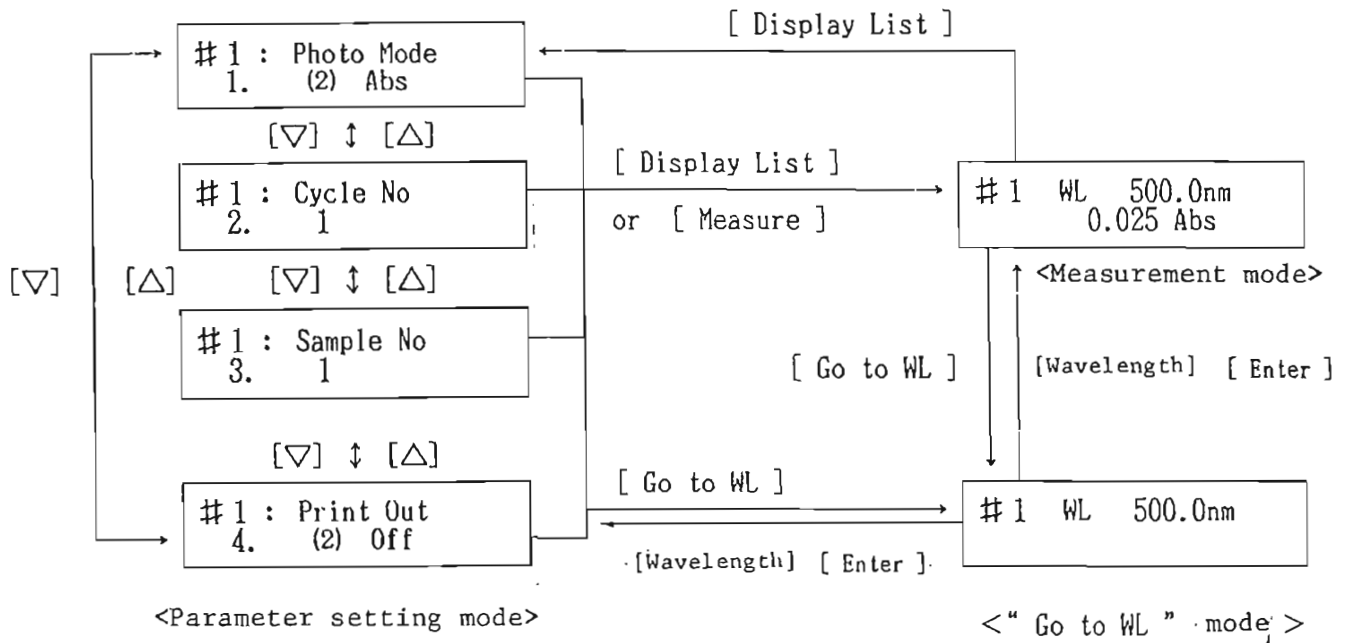

Fig. 6-1 LCD display and key operation in Method 1.
Pressing keys [Method] [1] [Enter] causes the parameter setting mode of Method 1. Fig. 6-1 shows the LCD display and key operation in Method 1.
(2) Check and change the parameter in the parameter setting mode shown in Fig. 6-1. Pressing the
NOTE: Measurement parameters are set as shown in Fig. 6-1 as standard.
(3) Select the measurement wavelength by the following key operation. Fig. 6-1 shows the change in the LCD display when the key is operated.